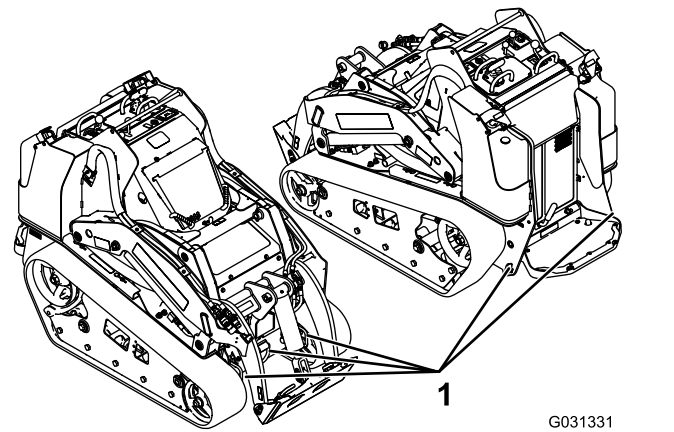

Figure 29
You can lift the machine using the tie-down/lift loops as lift points; refer to Figure 29.
8. Use the metal tie-down loops on the machine to securely fasten the machine to the trailer or truck with straps, chains, cable, or ropes (Figure 29). Refer to local regulations for tie-down requirements.